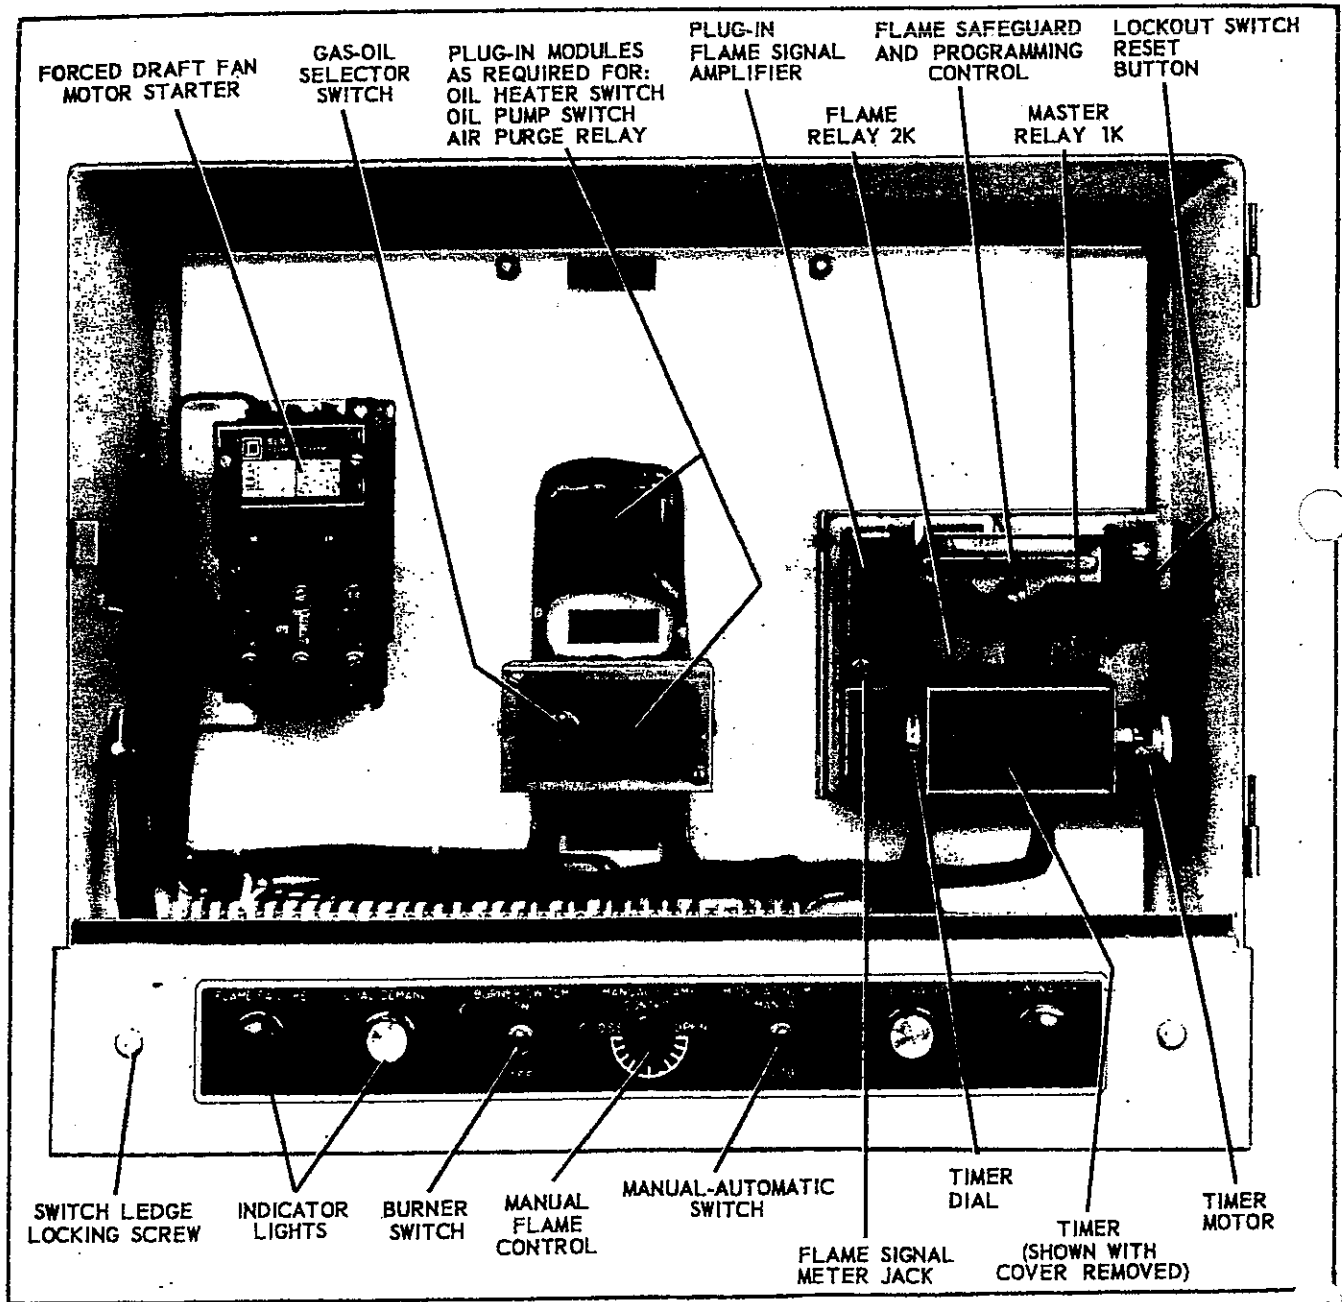

FIGURE 1-7 TYPICAL CONTROL PANEL WITH CB-20 PROGRAMMER
- (1) Oil Heater Switch (figure 1-7): Manually provides power to oil heater system.
(18) Air Purge Orifice Nozzle (not shown): Limits purging air to proper quantity for expelling unburned oil at normal delivery rate.
(19) Air Purge Orifice Nozzle Filter (not shown): Filters the purging air of any particles which might plug the air purge orifice nozzle.
(20) Air Purge Check Valve (not shown): Valve check prevents fuel oil from entering the atomizing air line.
(21) Air Purge Relay (figure 1-7): When energized, controls operation of air purge valve.
(1) Gas-Oil Switch (figure 1-7): Burners equipped to burn either oil or gas include equipment for each fuel. The selector switch routes electrical circuitry through those controls and interlocks required for the particular fuel. Chapter 4 details the required mechanical functions of each fuel system.